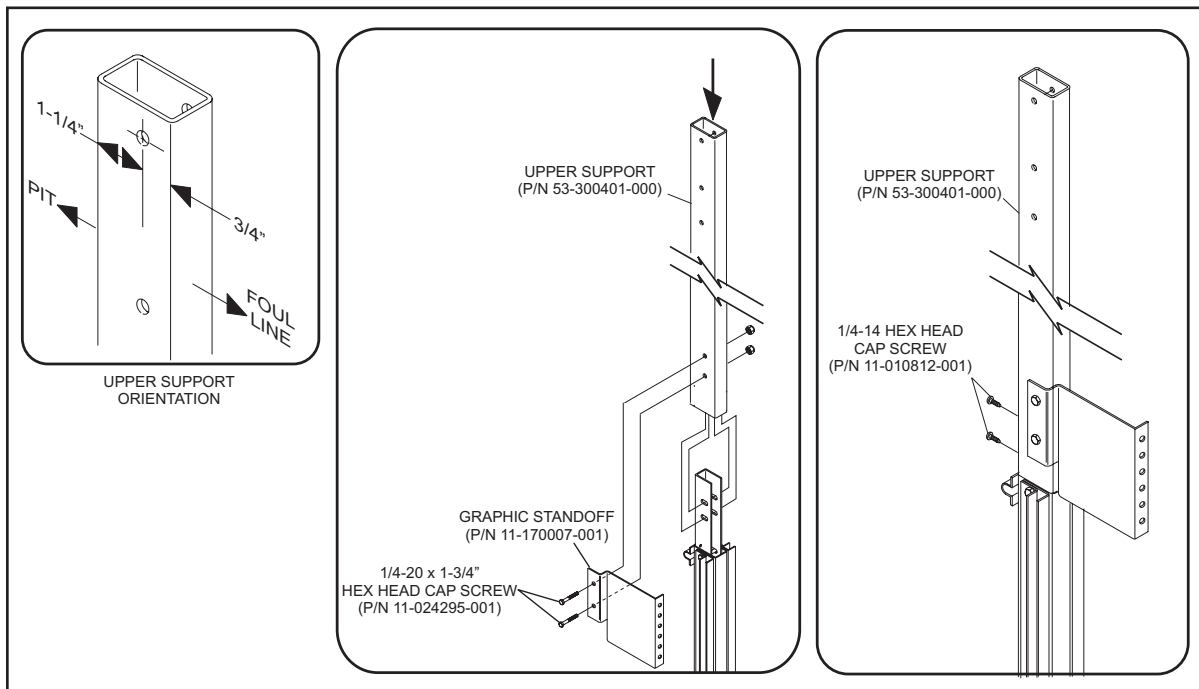

Figure 14
5. Install the upper support and one of the upper graphic standoffs to the lower support. Refer to *Figure 14*.